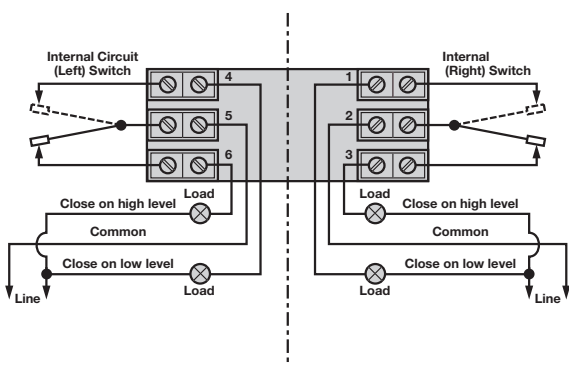

Figure 5
5. The switch terminals are located next to the conduit outlet to facilitate wiring. Bring supply wires through conduit outlet. Route extra wire around enclosing tube under the baffle plate, and connect them to the proper terminals. Refer to the wiring diagram, Figure 5 or 6, or your switch bulletin for this information.